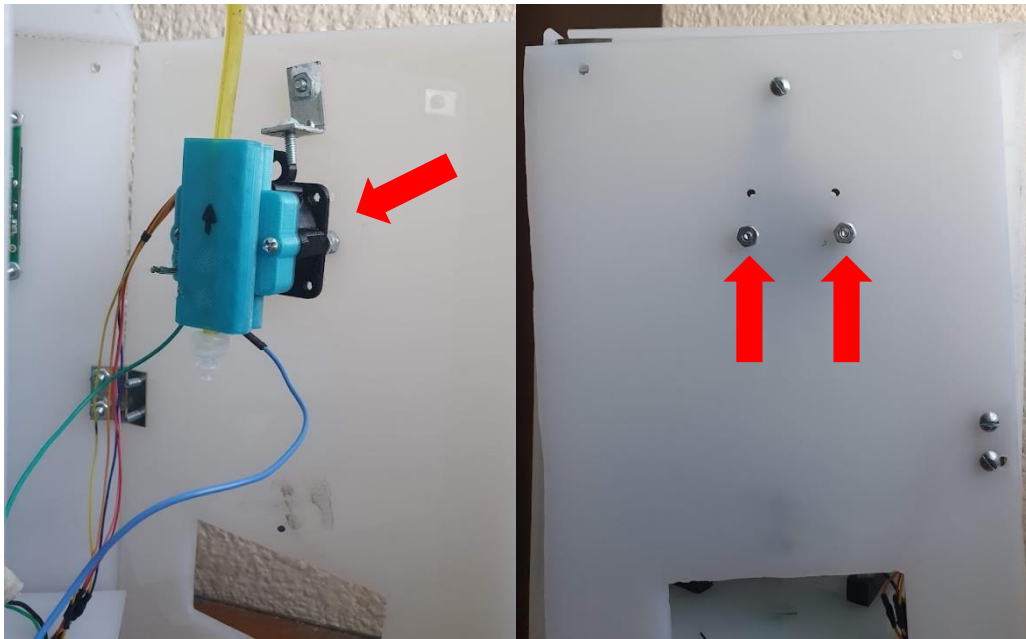

Figure 34- Arm Bolted to Dispenser
19. Screw the assembled arm to the inside of the side face of the dispenser (Figure 34)